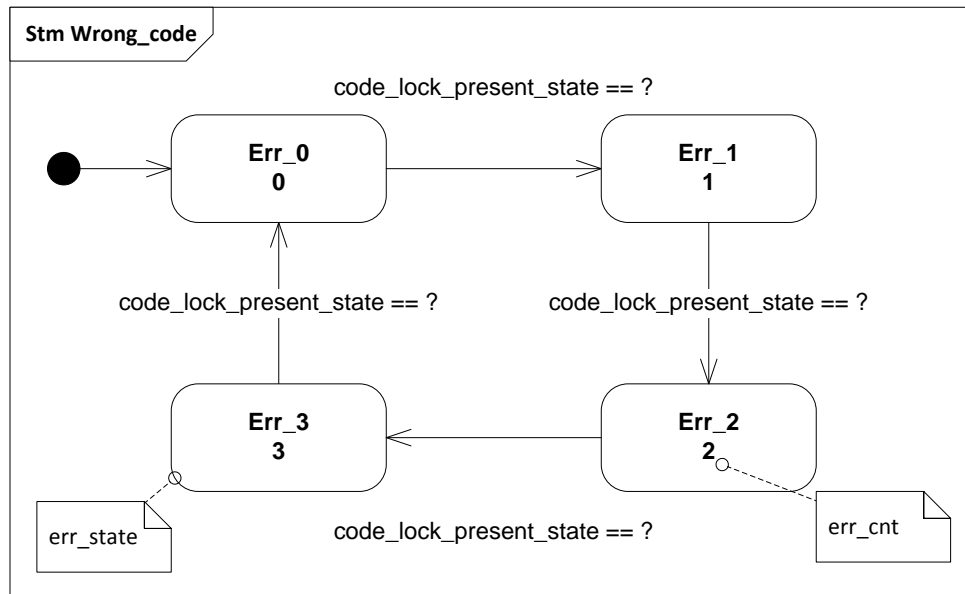

FIGURE 6 WRONG CODE STM
- 5) Create a new 3-process state machine in your code\_lock design file. This state machine must implement the Moore machine described in Figure 6. This state machine must be triggered as we enter a certain state in the code\_lock state machine, *which one?*